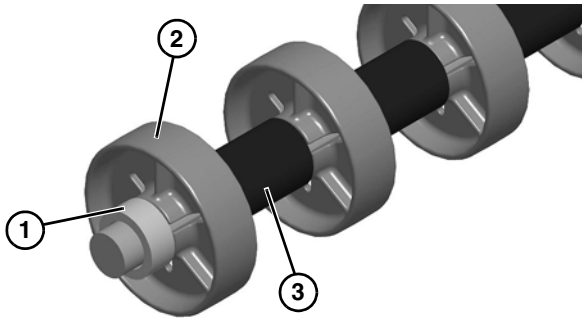

Figure 57
- Remove spacer (**Figure 57, item 1**), rollers (**Figure 57, item 2**) and tube spacers (**Figure 57, item 3**) from shaft.